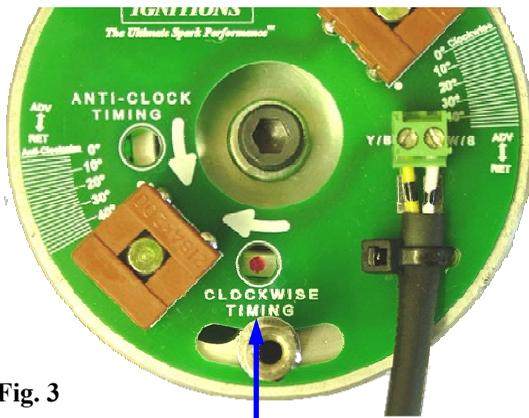

Fig. 3
- approximately 6 and 12 o'clock). Turn the magnetic rotor by hand until the red indicator dot aligns under the appropriate static timing hole in the trigger. This must be done without turning the engine. The appropriate timing hole is determined by the direction of rotation of the camshaft. The timing holes are marked on the trigger "Clockwise Timing" & "Anti-Clock Timing". See figs. 3 & 4 (page 9). For the Norton Commando, the magnets should be lined up approximately horizontal with the "Norton" stamp on the timing casing of the engine. To determine the correct timing hole for your machine, see Table 1 (page 8).